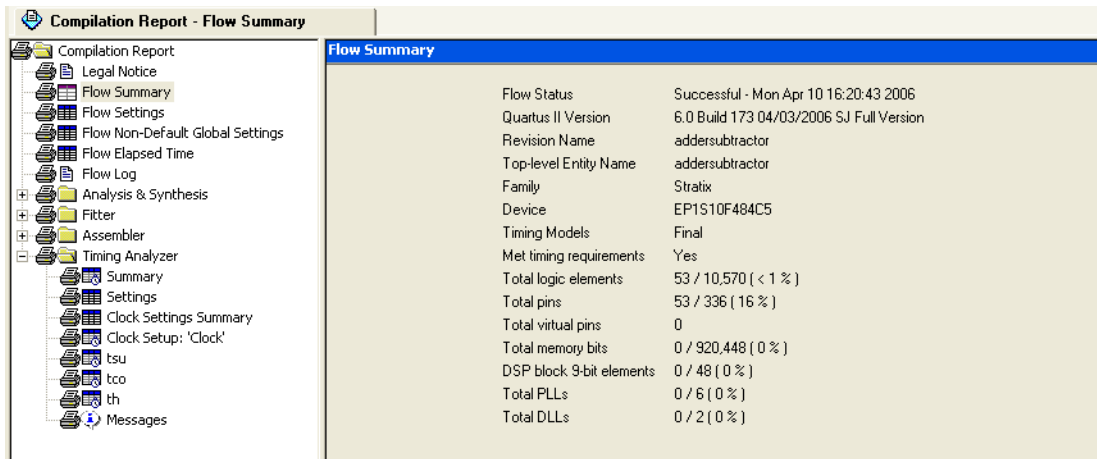
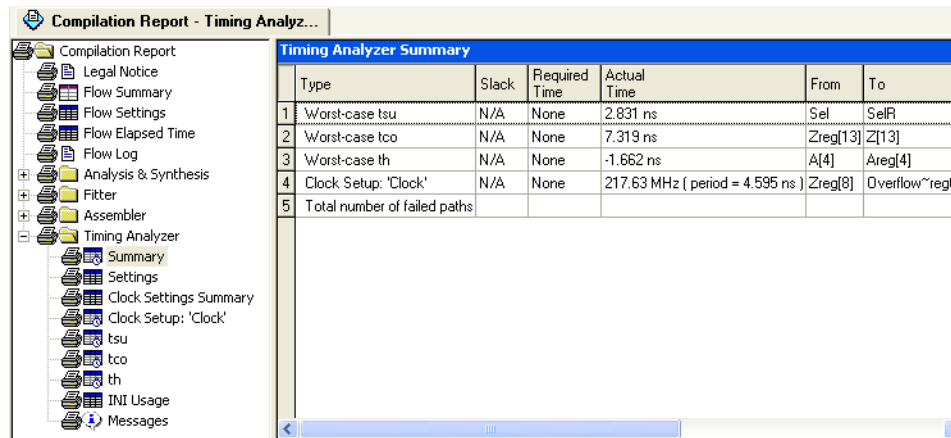

Figure 19: Compilation report.
Figure 20: Summary of timing analysis.
- When the compilation is finished, a compilation report is produced. A window showing this report, displayed in Figure 19, is opened automatically. The window can be resized, maximized, or closed in the normal way, and it can be opened at any time either by selecting **Processing > Compilation Report** or by clicking on the icon . The report includes a number of sections listed on the left side of its window. Figure 19 displays the Compiler Flow Summary section, which indicates that only a miniscule amount of chip resources are needed to implement this tiny circuit on the selected FPGA chip.
- Click on the small + symbol next to Timing Analyzer to expand this section of the report, as shown in Figure 19. Clicking on Timing Analyzer item Summary displays the table in Figure 20. The last entry in the table shows that the maximum frequency for our circuit implemented on the specified chip is 217.63 MHz. You may get a different value of f_{max} , dependent on the specific version of the Quartus II software installed on your computer.
- To see the paths in the circuit that limit the f_{max} , click on the Timing Analyzer item Clock Setup: 'Clock' in Figure 20 to obtain the display in Figure 21. This table shows that the critical path begins at bit 8 of register *Zreg* and ends at the flip-flop *Overflow*. The table in Figure 20 also shows the measurements of other timing parameters. While f_{max} is a function of the longest propagation delay between two registers in the circuit, it does not indicate the delays with which output signals appear at the pins of the chip. The time elapsed from an active edge of the clock signal at the clock source until a corresponding output signal
- Click on *tco* in the Timing Analyzer section to view the table given in Figure 22. The first entry in the table shows that it takes 7.319 ns for a signal to propagate from bit 0 in register *Zreg* to the output pin *z*₁₃. The other two parameters given in Figure 20 are setup time, *tsu*, and hold time, *th*.